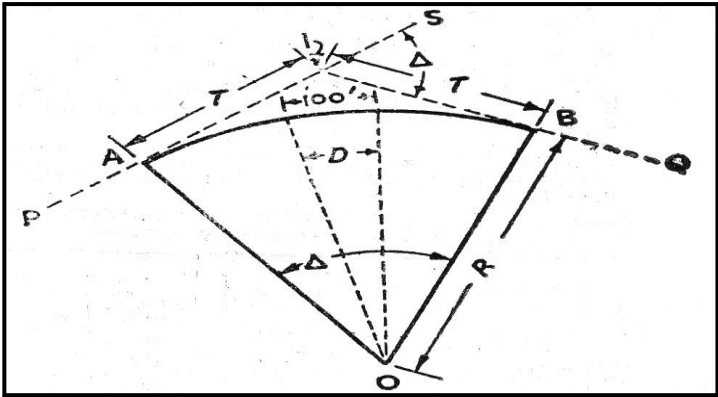

Figure 3-5: The Simple Curve
0325. The Simple Curve. The main components of the simple curve are illustrated in Figure 3.5 and are defined below:
- b. Tangent Point. The two points at which the curve begins and finishes (point A and B in Figure 3.5).
Set out a chord AB and bisect it at C (see Figure 3.5), so that $AC=BC=a$. From point C measure the perpendicular offset (x) to point D on the curve. The radius, $R = \frac{x^2 + a^2}{2x}$. It is often convention to make the chord length 60 ft (see para 62). Values of R for various values of the offset (x) from a 60 ft chord are given in Table 3.12.